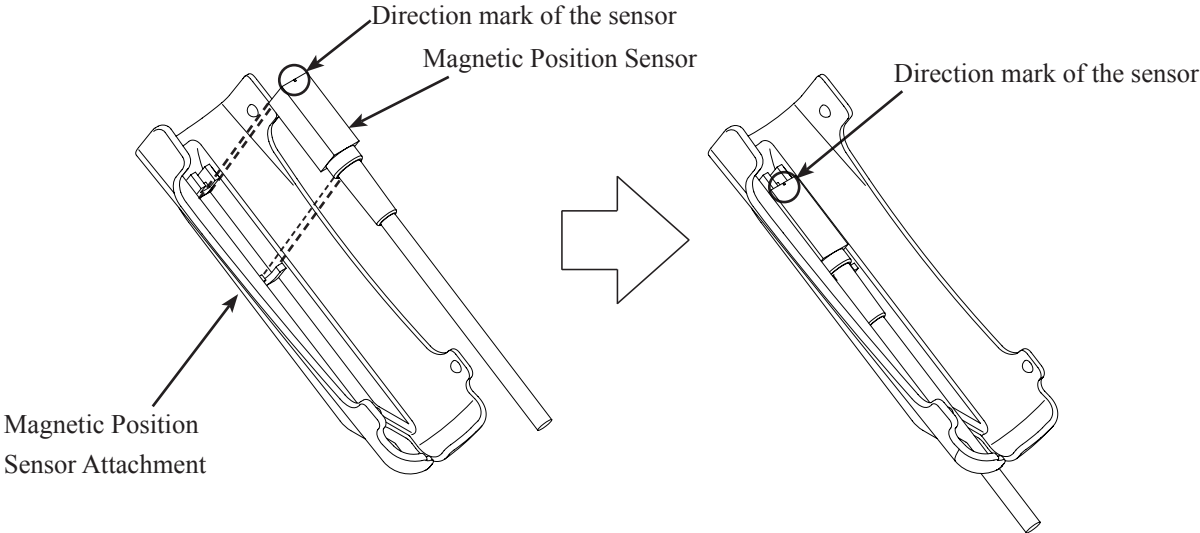

Figure 4 How to attach Magnetic Position Sensor
- (1) Confirm that the magnetic position sensor attachment is sterilized or disinfected.
- (2) Insert the magnetic position sensor into the magnetic position sensor attachment with the correct direction as shown in Figure 4.